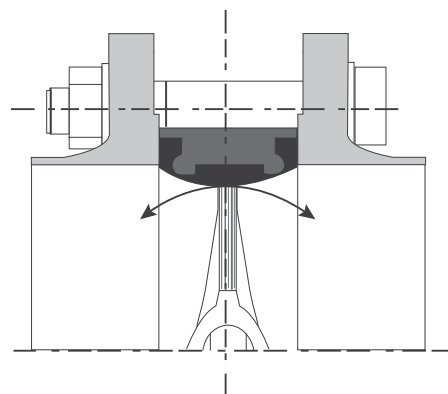

Figure 2: Incorrect installation
- Poor sealing between seat (liner) and butterfly disc (see figure 2).